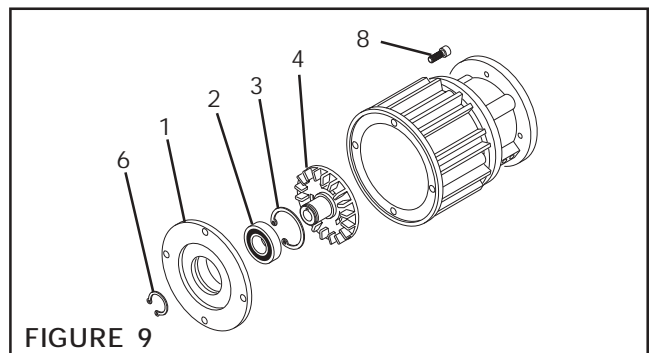

FIGURE 9
1. Remove four Socket Head Cap Screws (Item 8) and slide the Female Pilot (Item 1), Bearing (Item 2), and the Drive Disc (Item 4) out of the FMCBES (See Figure 9).
2. Remove Retaining Ring (Item 6) (See Figure 9).
3. Press the Drive Disc (Item 4) out of the Bearing (Item 2) and the Female Pilot (Item 1) (See Figure 9).
4. Remove Retaining Ring (Item 3) (See Figure 9).
5. Fully supporting the Female Pilot (Item 1), press the old Bearing (Item 2) out of the Female Pilot (Item 1) (See Figure 9).
6. Clean the bearing bore of the Female Pilot (Item 1) with fresh safety solvent, making sure all old Loctite^o residue is removed (See Figure 9).
7. Apply an adequate amount of Loctite^o 680 to evenly coat the outer race of the new Bearing (Item 2) (See Figure 9).
8. Carefully align the outer race of the new Bearing (Item 2) with the bore of the Female Pilot (Item 1) (See Figure 9).
9. Supporting the Female Pilot (Item 1) and pressing on the outer race of the new Bearing (Item 2), press the new Bearing into the Female Pilot (See Figure 9).
11. Support the inner race of the new Bearing (Item 2) and press the Drive Disc (Item 4) into the new Bearing and Female Pilot (Item 1) (See Figure 9).
12. Reinstall Retaining Ring (Item 6) (See Figure 9).
13. Apply a drop of Loctite^o 242 to the threads of the Socket Head Cap Screws (Item 8) (See Figure 9).
14. Slide the Female Pilot (Item 1), Bearing (Item 2), and Drive Disc (Item 4) into the FMCBES and reinstall the four Socket Head Cap Screws (Item 8) (See Figure 9).